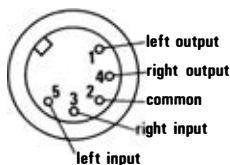

FIG. 42. Five-pin d.i.n. connector showing standard connections, swop inputs and outputs for tape machines
**d.i.n.:** Initials of the German standards institution, responsible for the definition of many of the standards used in hi-fi equipment, and also methods of measurement of performance. The initials are used as the name of a range of connectors; the wiring of the most common five-pin one is given in Fig. 42.